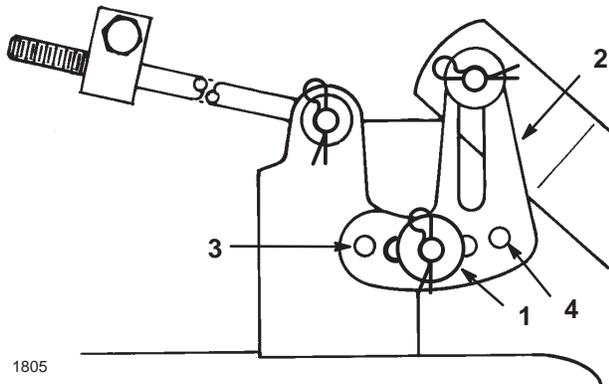

Figure 51
- Remove the hairpin cotter and washer from the leveling bracket (Fig. 51).
- To level the blades, reposition the leveling bracket in a different hole and install the washer and hairpin cotter (Fig. 51). A front hole lowers the blade height and a rear hole raises its height.